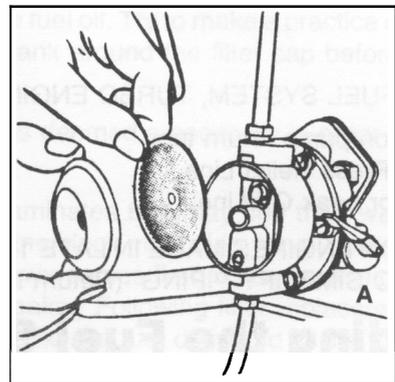

FIG. 7.
4. Operate the priming lever at the side of the fuel lift pump on naturally aspirated unit (Fig. 7.) or the pump plunger (Fig. 6.) on turbocharger engines until a flow of fuel, free of air, is expelled. Then close screw.